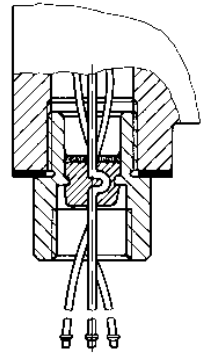

Fig. 6.3
**Type 6115-13** · i/p converter, threaded conductor bushing and cable grip (Fig. 6.3) for conduit entry according to American standards.